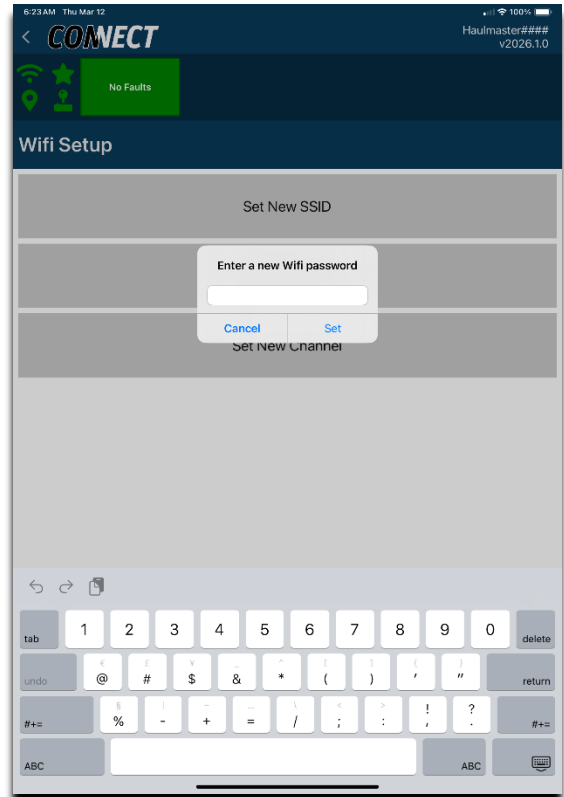

Figure 89 New Wi-Fi Password
2. Enter the new Wi-Fi password and press **Set**. See Figure 89.